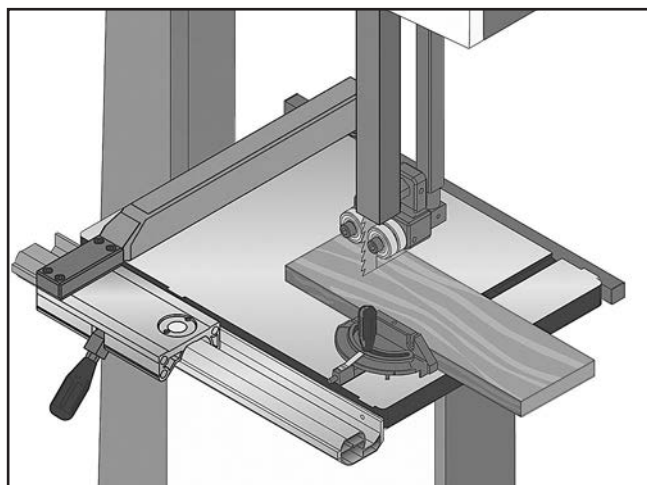

Figure 78. Example of crosscutting.
5. After all safety precautions have been met, turn the bandsaw **ON**. Slowly feed the workpiece into the blade and continue the cut until the blade is all the way through the workpiece. **Figure 78** shows a typical cross-cutting operation.